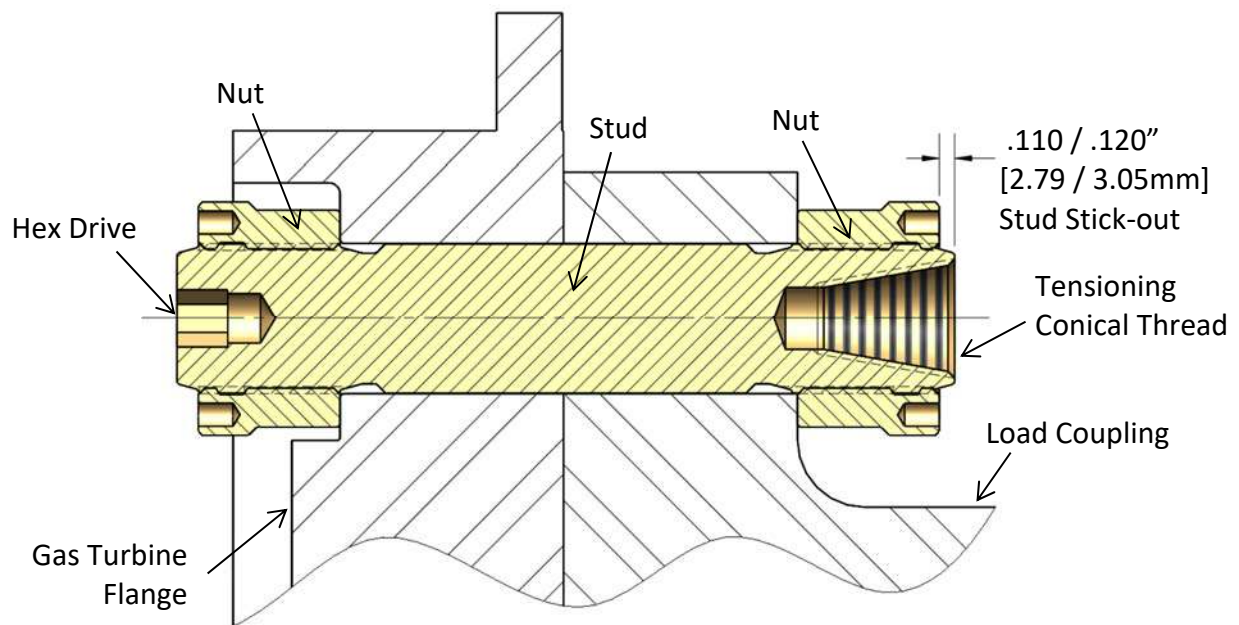

Figure 6A – Cross-section View of Gas Turbine to Load Coupling Bolted Flange Connection
2. Slide the stud and cylindrical nut assembly into the flange as shown in Figures 6A, 6B, 6C, and 6D.